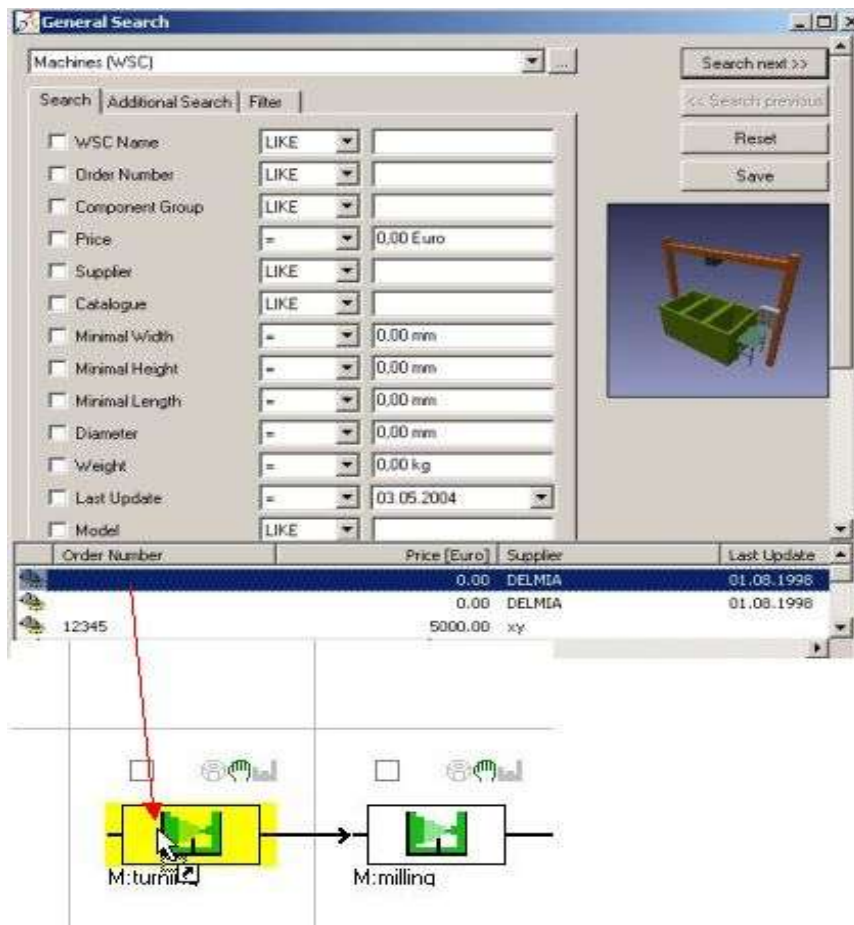

Figure 62: Assign System Elements via the General Search
- 3) Select the system element in the list and drag and drop it to the resource. In this way you can assign graphic icons to all resources (system elements). Please refer to the Figure 62.